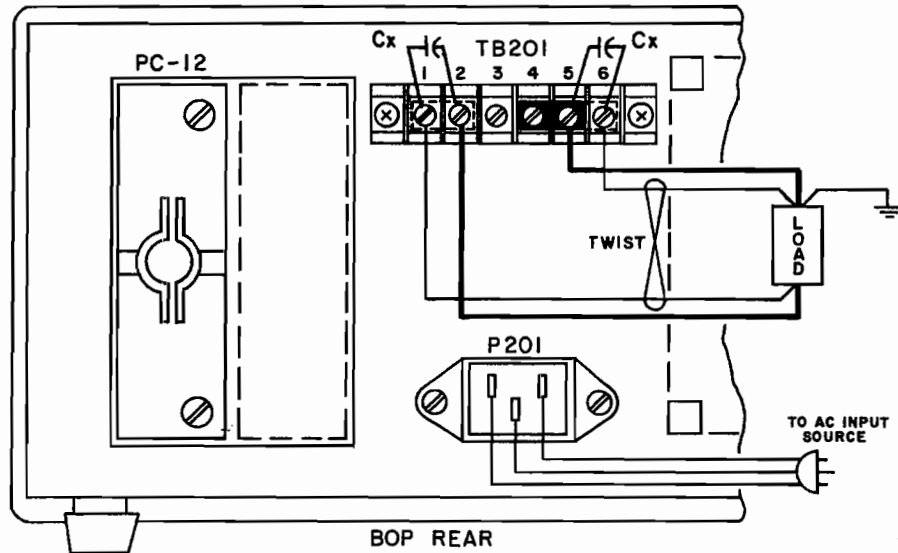

FIG. 3-3A LOAD CONNECTION AT THE REAR, WITH ERROR SENSING.
- B) **LOAD CONNECTION (I).** The basic interconnections between the BOP and the load are shown in FIG.'s 3-2A and 3-2B. The load wire size for the 2-wire connection shown should be as large as practicable to keep the series resistance and inductance low. In addition, the load wire pair should be tightly twisted, to reduce possible "pick-up" from stray magnetic fields. The basic 2-wire connection is useful where the voltage drop in the load wires is of minor consequence, as for example, operation into a constant load or in a constant current operating mode.
- C) **LOAD CONNECTION (II).** The recommended load connection for all applications requiring minimum load effect across a remote load is shown in FIG. 3-3A and 3-3B. A twisted, shielded pair of wires (No. 20 AWG minimum) are connected from the BOP sensing terminals to the load. This "remote error sensing" technique will compensate for load wire voltage drops up to 0.5 volts per wire.